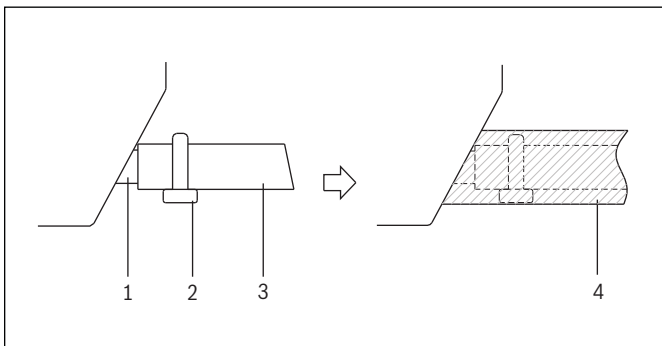

Figure 15
- ▶ Wrap the insulation (field supplied) over the metal clamp and drain hose to insulate. See Figure 15.